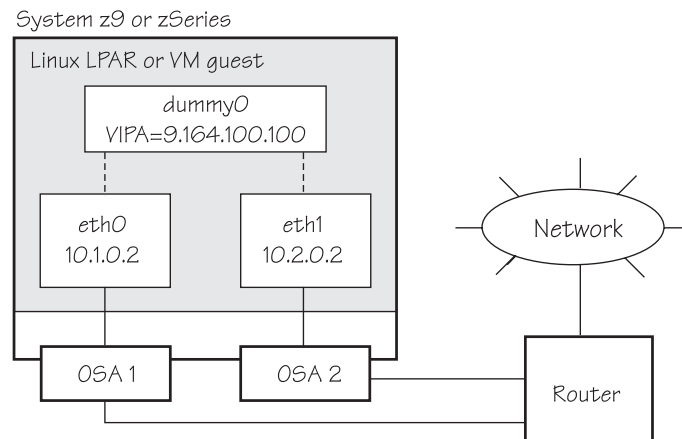

Figure 25. Example of using Virtual IP Address (VIPA)
- Static routing (shown in the example of Figure 25 on page 126).
Figure 25 shows the network adapter configuration used in the example.